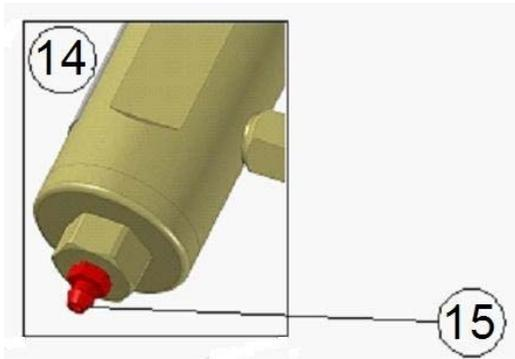

Figure 6 Grease filter (14), venting screw (15)
Warning Ensure that there is no pressure in the system. Before opening the grease filter, remove pressure by opening the venting screw in the filter plug (→ **Figure 6, (15)**). If the system is under pressure when the components are being disconnected or opened, the components or lubricant might be flung in the air causing injury to people or damage to the environment.